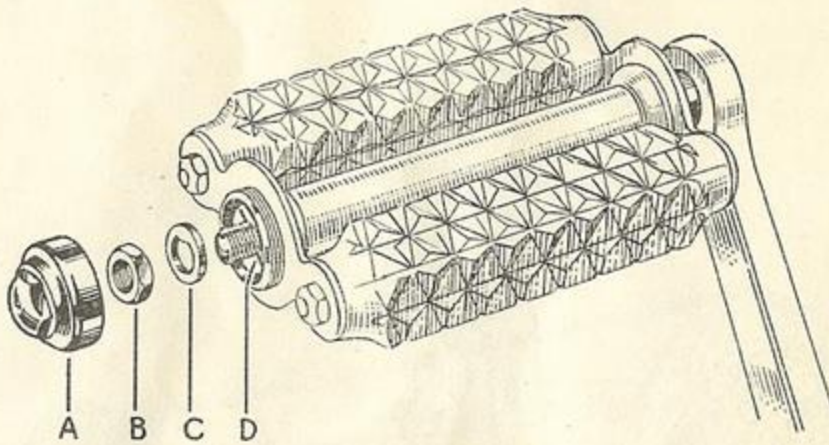

FIG. 15
- 12 **Pedals.** Do not forget that the pedal bearings are just as important as the wheel and bottom bracket axle bearings. To take up play remove the dust cap A at the outer end of the pedal, which will expose the nut B, lock washer C and adjusting cone D (see Fig. 15). Unscrew the nut completely, remove the lock washer and take up play by adjusting the cone, then replace the lock washer, nut and dust cap.